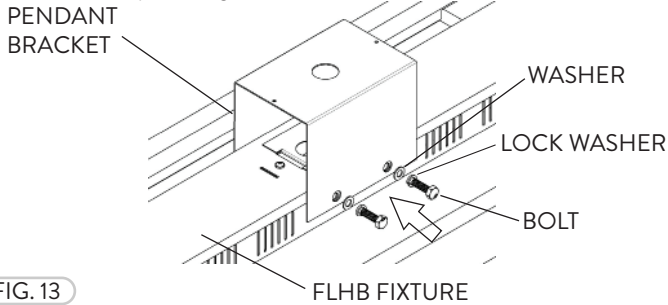

FIG. 13
- 1 Fasten the Pendant Bracket to the top-center of the FLHB Fixture using the Bolts, Washers, and Lock Washers to screw the Pendant Bracket into place (Fig. 13).